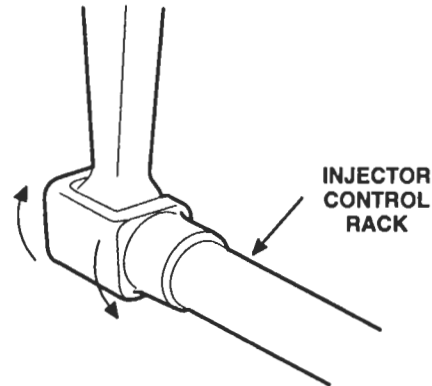

Figure 3. Checking Rotating Movement of Injector Control Rack
4. To be sure the control lever is properly adjusted, hold the speed control lever in the maximum speed position and press down on the injector rack with a screwdriver or finger tip and note "rotating" movement of the injector control rack when the speed control lever is in the maximum speed position (Figure 3.)